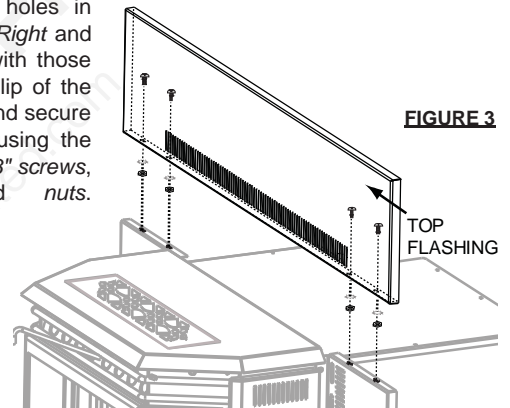

FIGURE 3
- Align the holes in the top of the *Right* and *Left Flashing* with those on the bottom lip of the *Top Flashing* and secure from the rear using the four #8-32 x 3/8" screws, washers and nuts. (FIGURE 3)